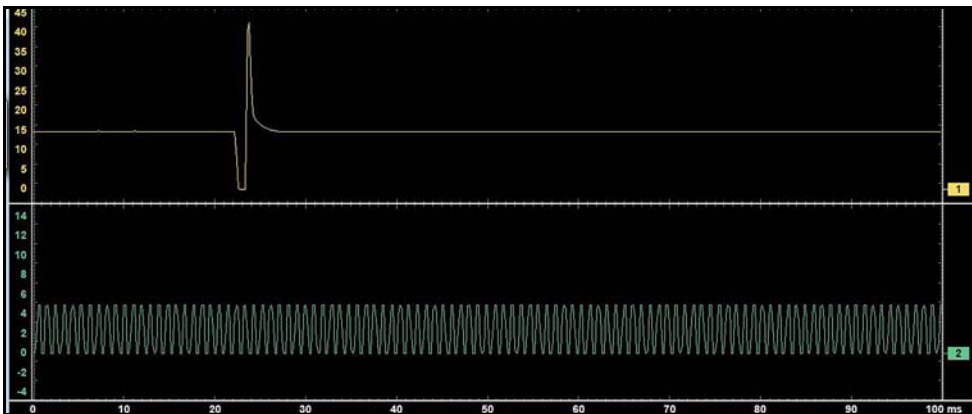
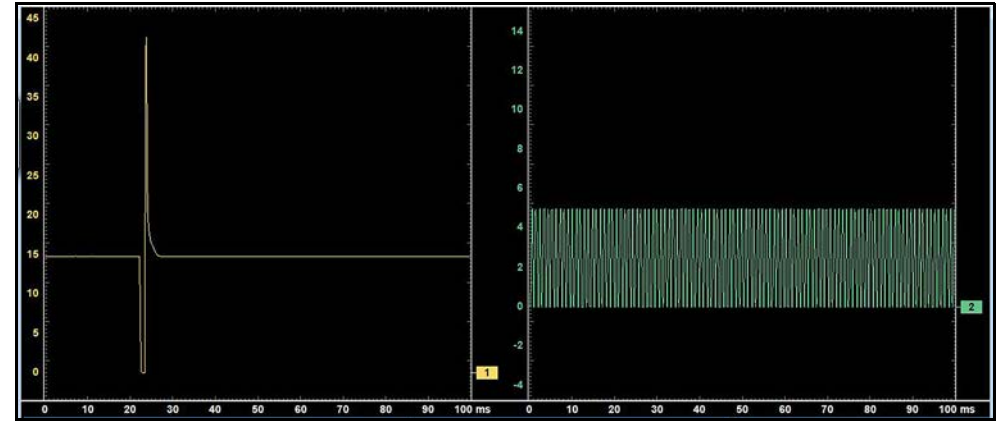

Figure 9-16 Sample 2 Windows horizontal display
Figure 9-17 Sample 2 Windows vertical display
- **2 windows**—shows two separate traces in two ways: horizontal, one below another (*Figure 9-16*) or vertical, side-by-side (*Figure 9-17*).